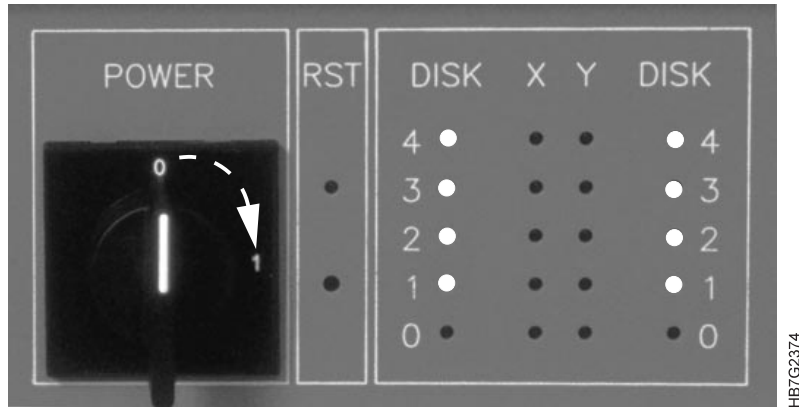

Figure 117. Collator Front Panel
5. Turn the power switch on the front panel of the collator to the '1' position as shown in Figure 117.